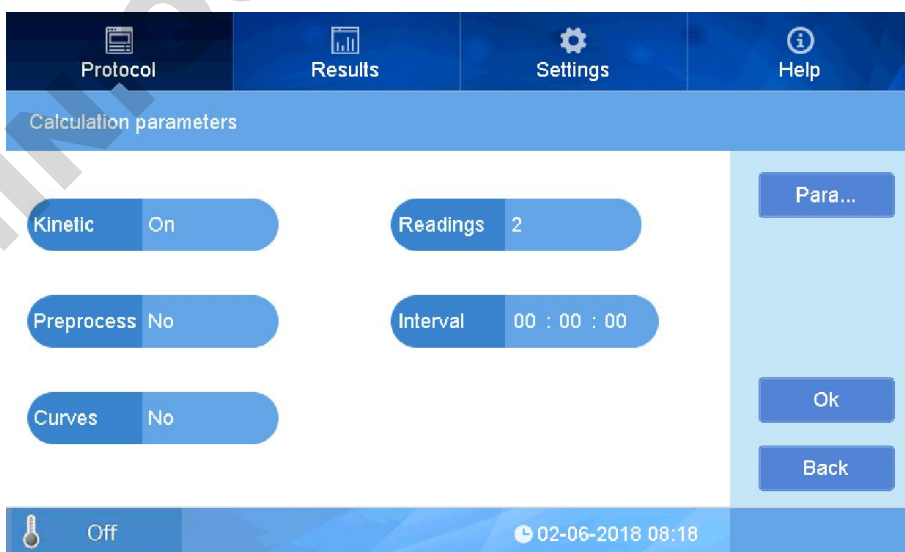

fig 26
- On interface “protocol”, click white area near “Calculate” to set “Calculate parameters”. Click button right beside Kinetic to choose Open or Close. Set parameters when it is “On”(Fig 26).